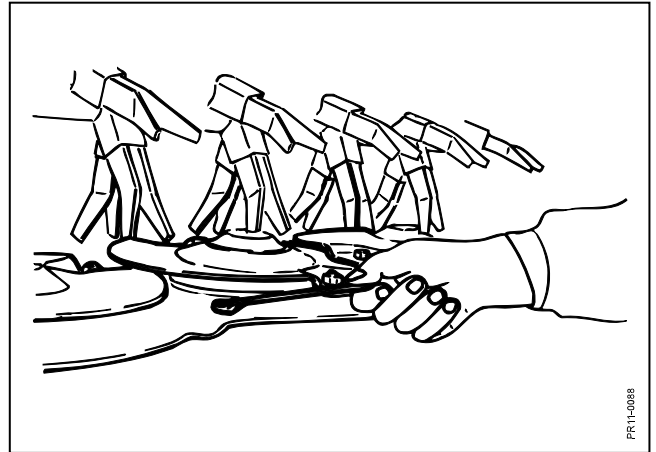

Fig. 5-5
- Fig. 5-5** Bolts at stone protections and shear bar must be checked at regular intervals.